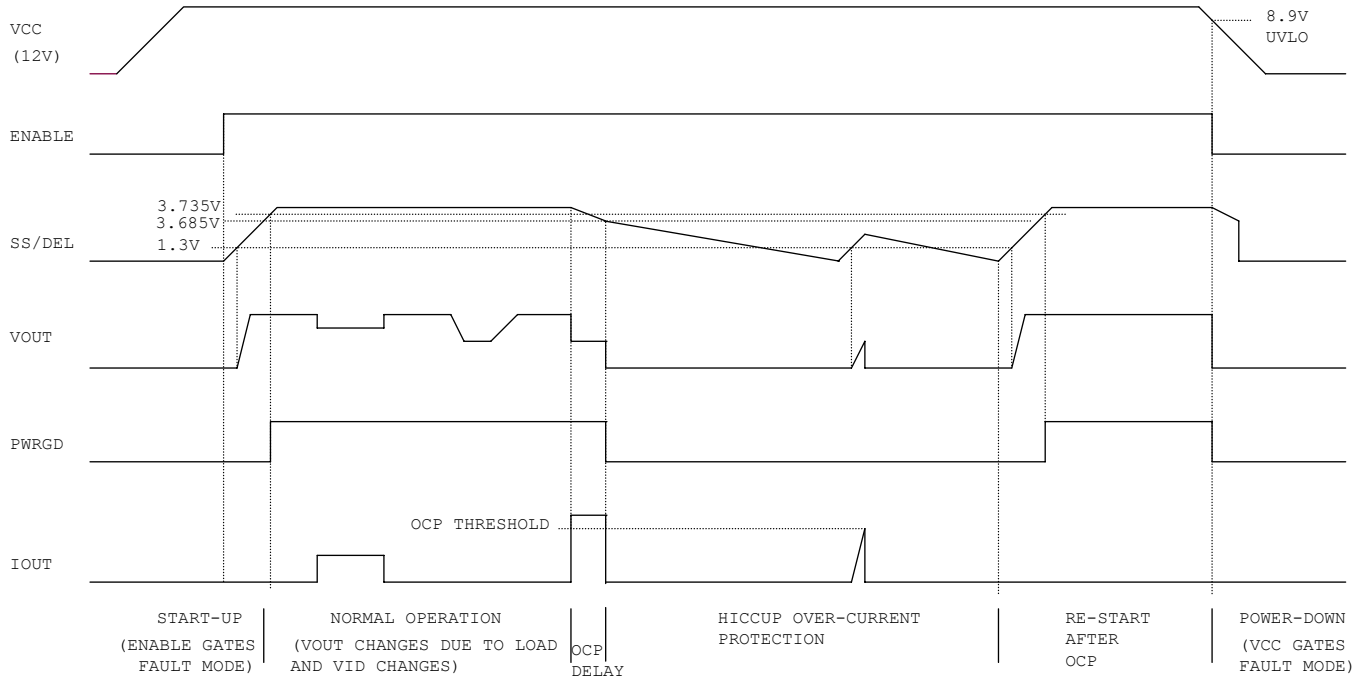

Figure 10. Operating Waveforms
Figure 10 depicts the various operating modes as controlled by the SS/DEL function. If there is no fault, the SS/DEL pin will begin to be charged. The error amplifier output is clamped low until SS/DEL reaches 1.3V. The error amplifier will then regulate the converter's output voltage to match the SS/DEL voltage less the 1.3V offset until it reaches the level determined by the VID inputs. The SS/DEL voltage continues to increase until it rises above 3.71V and allows the PWRGD signal to be asserted. SS/DEL finally settles at 3.8V, indicating the end of the soft start.
The SS/DEL pin voltage controls the slew rate of the converter output voltage, as shown in Figure 10. After the $ENABLE$ pin voltage rises above 0.6V, there is a soft-start delay time t_{SSDEL} , after which the error amplifier output is released to allow the soft start. The soft start time t_{SS} represents the time during which converter voltage rises from zero to V_O . t_{SS} can be programmed by an external capacitor, which is determined by Equation (1).